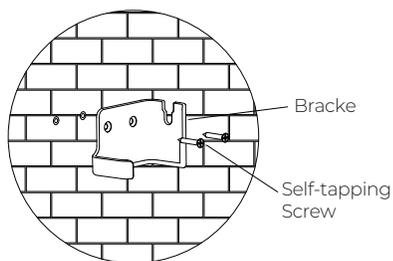

Fig. 3-14-4
- c. Fix the mounting bracket onto the wall and use the Phillips screwdriver to fasten 2 self-tapping screws into the wall plugs. See fig. 3-14-4.